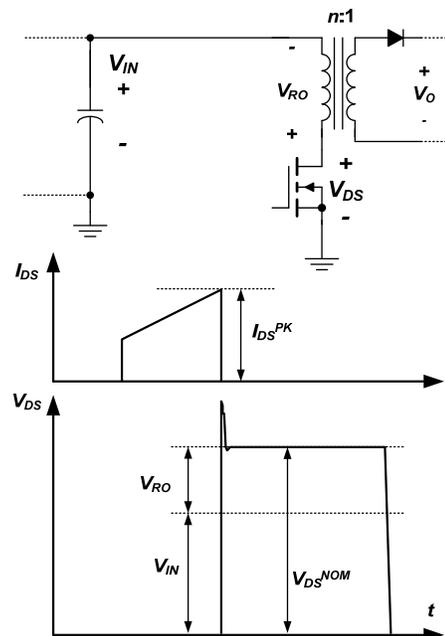

Figure 3. Typical MOSFET V_{DS} Waveform
- The reflected voltage of output to the primary-side winding (V_{RO}), as illustrated in Figure 3.